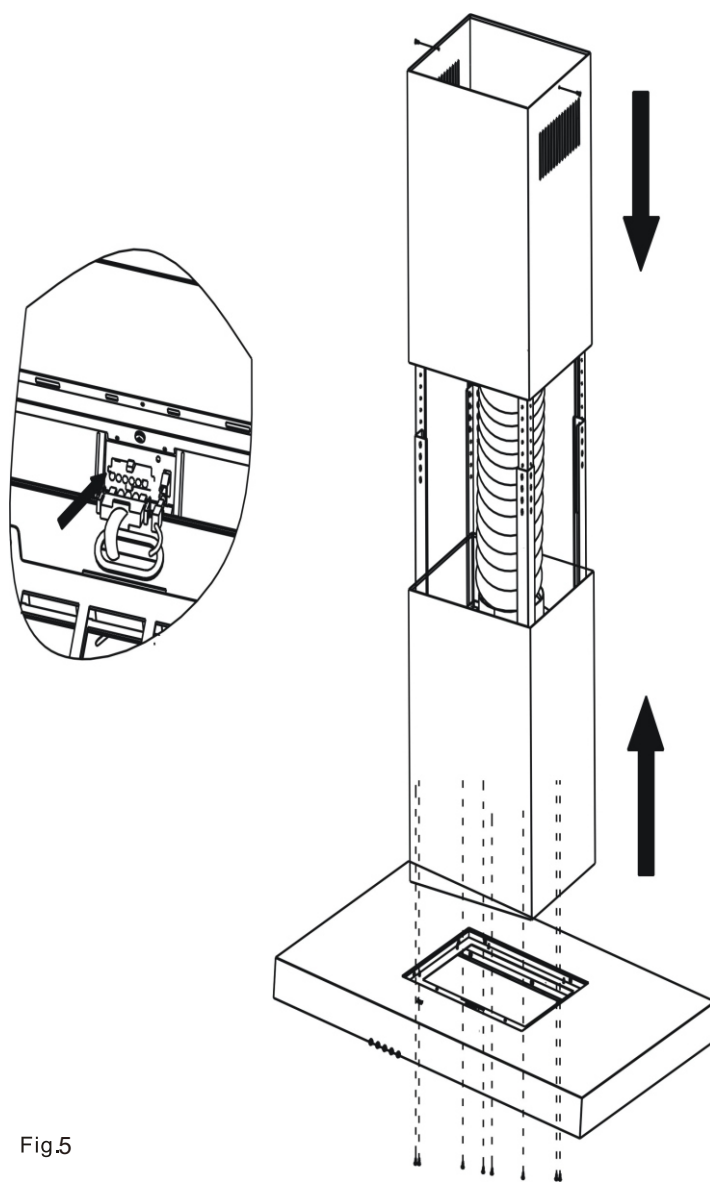

Fig.5
6. Insert the top chimney into the truss, secure it with two screws. Insert the bottom chimney in its seat so that it completely covers the motor compartment and electrical connection box. (Fig.5)
7. Hook the hood body onto the truss, ensuring it fits properly, secure the body to the truss with 8 screws then tighten it. (Fig.5)